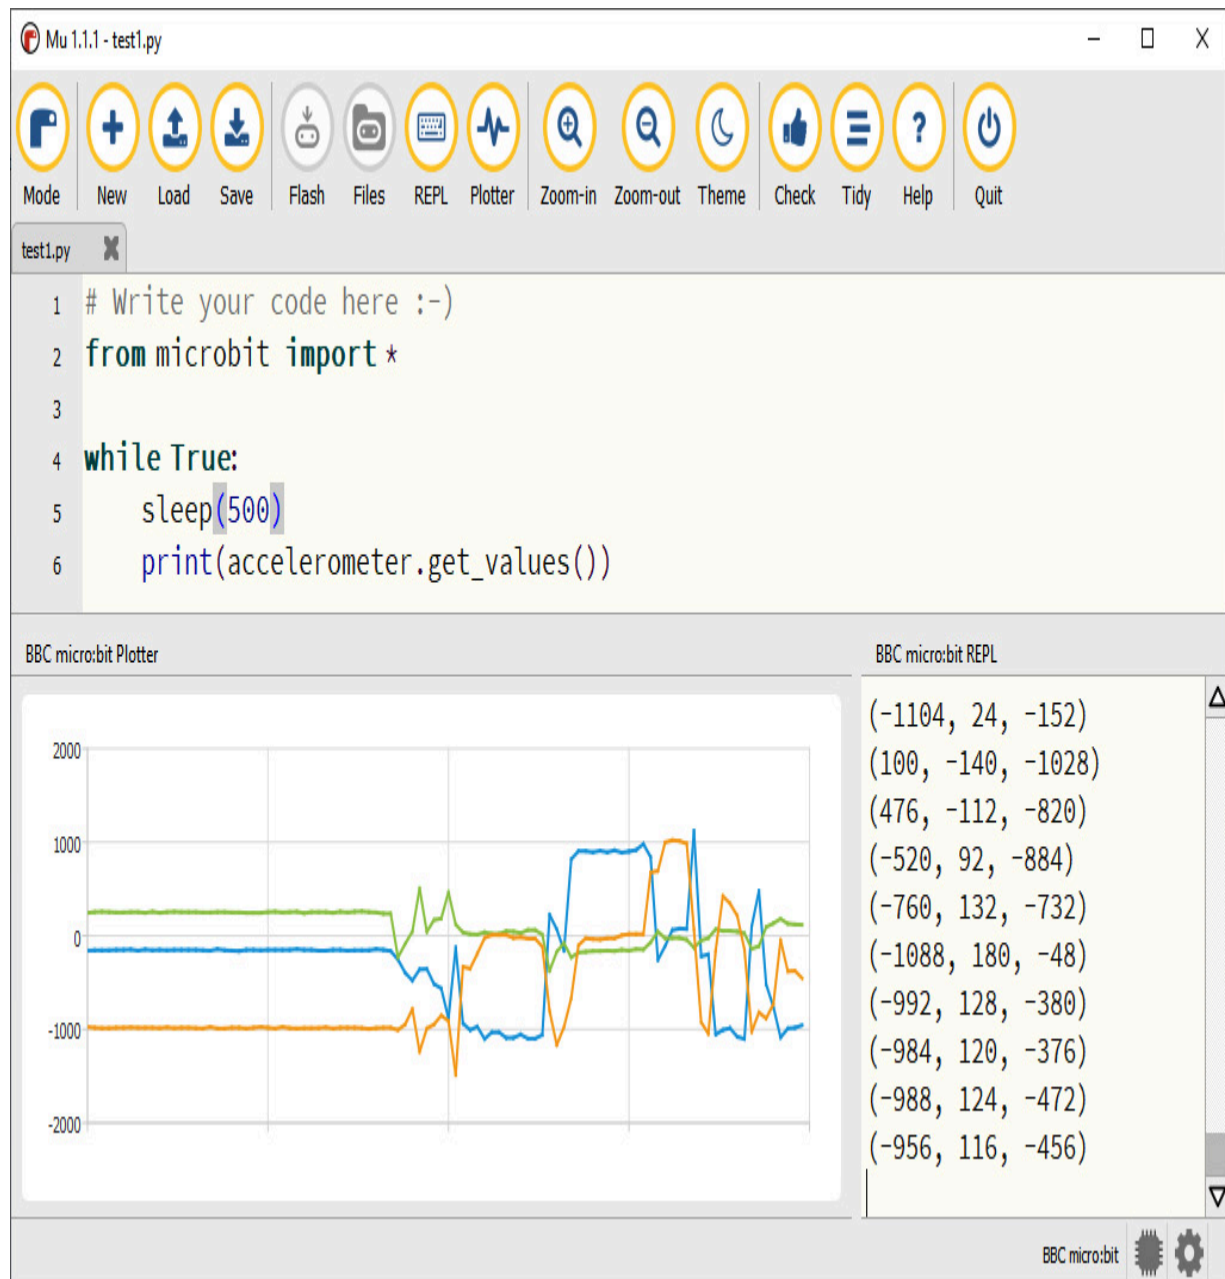

Figure 15.2 – Accelerometer data from the Micro:bit plotted using the Mu editor
*Figure 15.2* shows the numerical and graphical representations of the  $x$ ,  $y$ , and  $z$  axes for the accelerometer data. In the Mu editor, we will write the code, then click the **Flash** button to transfer the code to the Micro:bit. Then, we will click the **REPL** and **Plotter** buttons